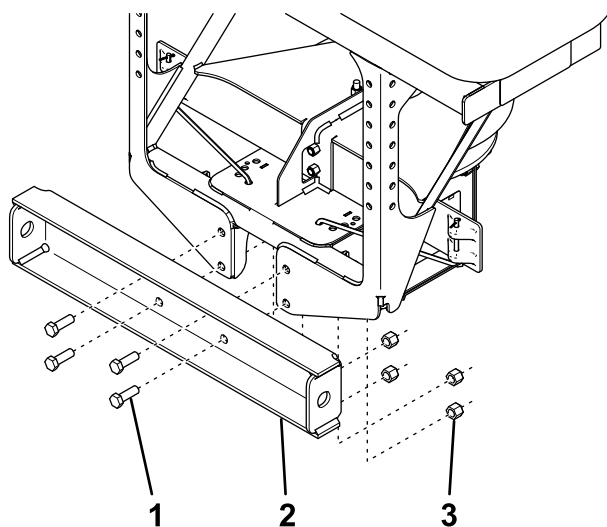

Figure 1
1. Loosely secure the lower weldment to the spreader frame using 4 bolts (1/2 inch) and nuts (Figure 1).